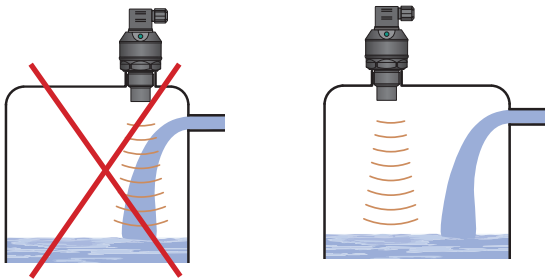

Fig. 7: Installation of the device out of reach of filling circulation
- i) Do not install the device in or above the **filling** point (Fig. 7). The measurement could be af-